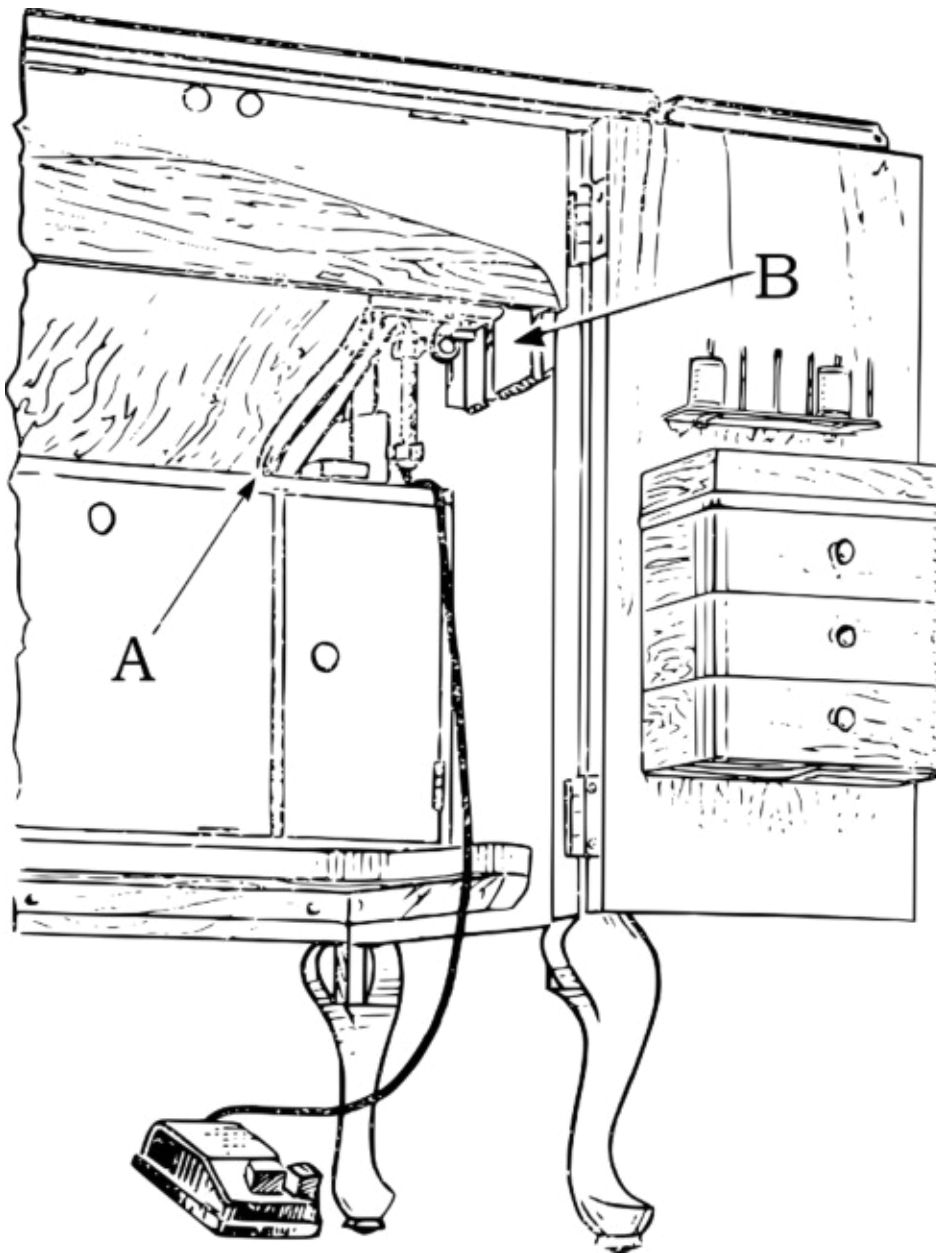

FIG. 4. BAKELITE CONTROLLER ARRANGED FOR FOOT CONTROLLER WITH CABINET 48
Slide the controller downward out of the holder (B) and place it on the floor in a position convenient for the operator, then turn up the knee lever (A) as shown in Fig. 4.